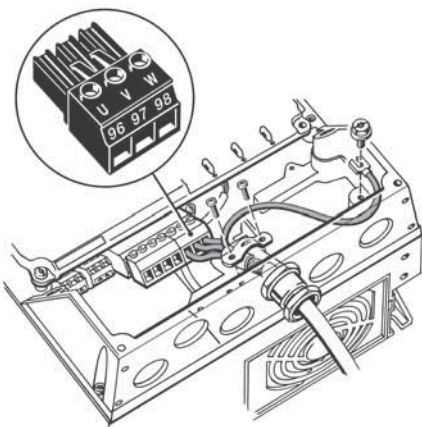

Fig. 13 Motor connection, A5
1. Connect the ground conductor to terminal 99 (PE), see fig. 13.
2. Connect the motor conductors to terminals 96 (U), 97 (V), 98 (W) of the motor plug.